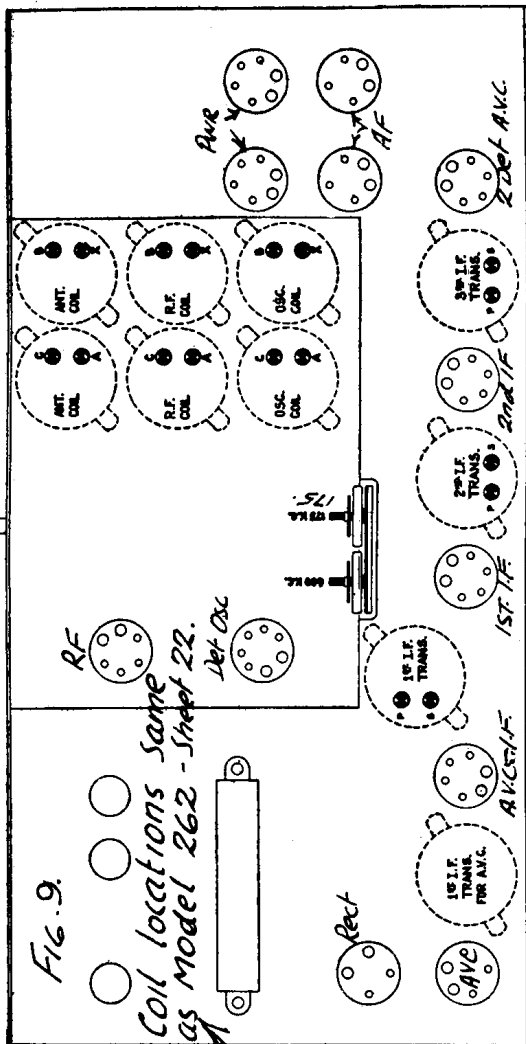

Fig. 9. Coil locations same as Model 262 - Sheet 22.
- (a) The oscillator series capacitor, marked 175 K. C., Figure 9, is first tightened to near its maximum capacity position (screwed "in").
- (c) Shift the external oscillator to 175 K. C. Tune in the 175 K. C. signal irrespective of scale calibration and adjust the series trimmer marked 175 K. C. on Figure 9, for maximum output, at the same time rocking the variable tuning capacitor. Then readjust at 410 K. C. as described in (b).